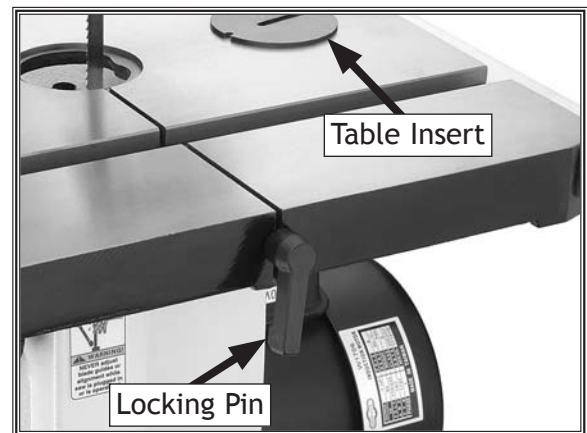

Figure 50. Table insert and locking pin.
4. Remove the table insert and the table locking pin (see **Figure 50**).